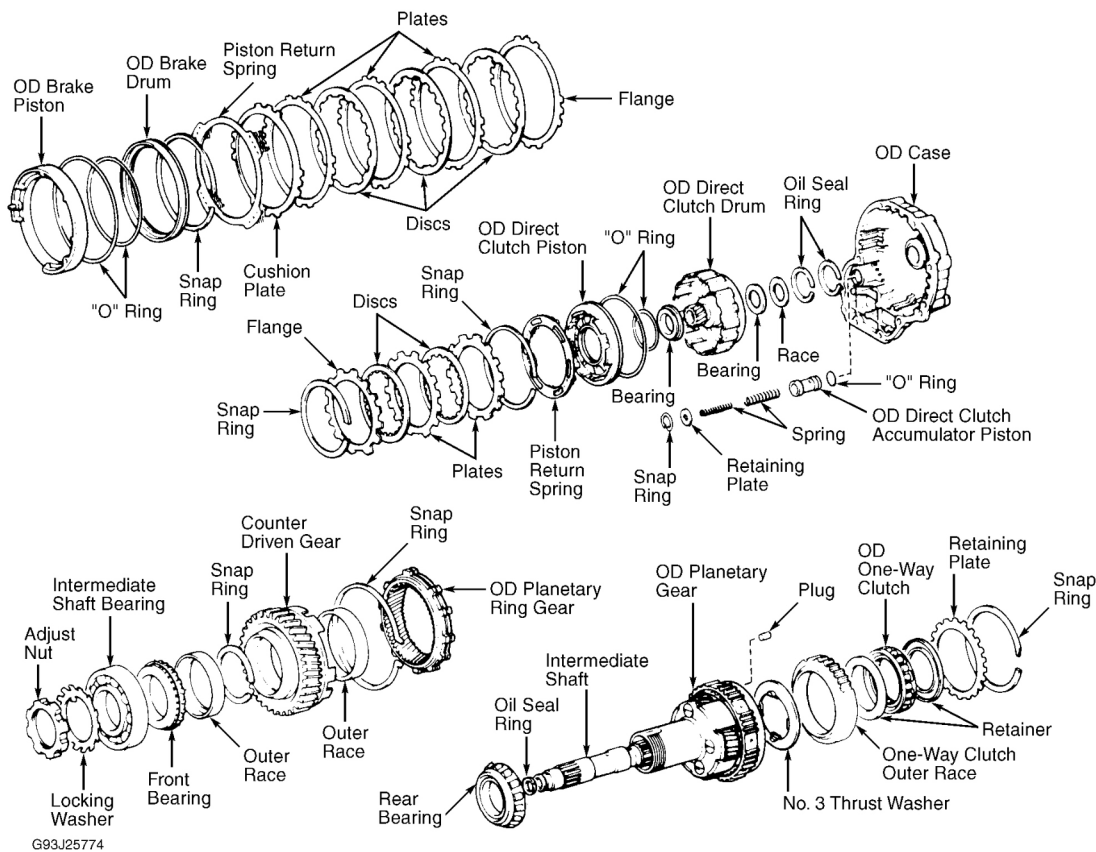

Fig. 41: Exploded View Of Overdrive Assembly
1. While pushing return spring, remove snap ring with a screwdriver. Remove piston return spring. Remove plates, discs and flange. See **Fig. 41**.
1. Coat NEW "O" ring with ATF. Install "O" ring on piston. Press piston in drum with cup side up. **DO NOT** damage "O" ring. Install return spring and set snap ring in place. See **Fig. 41** .